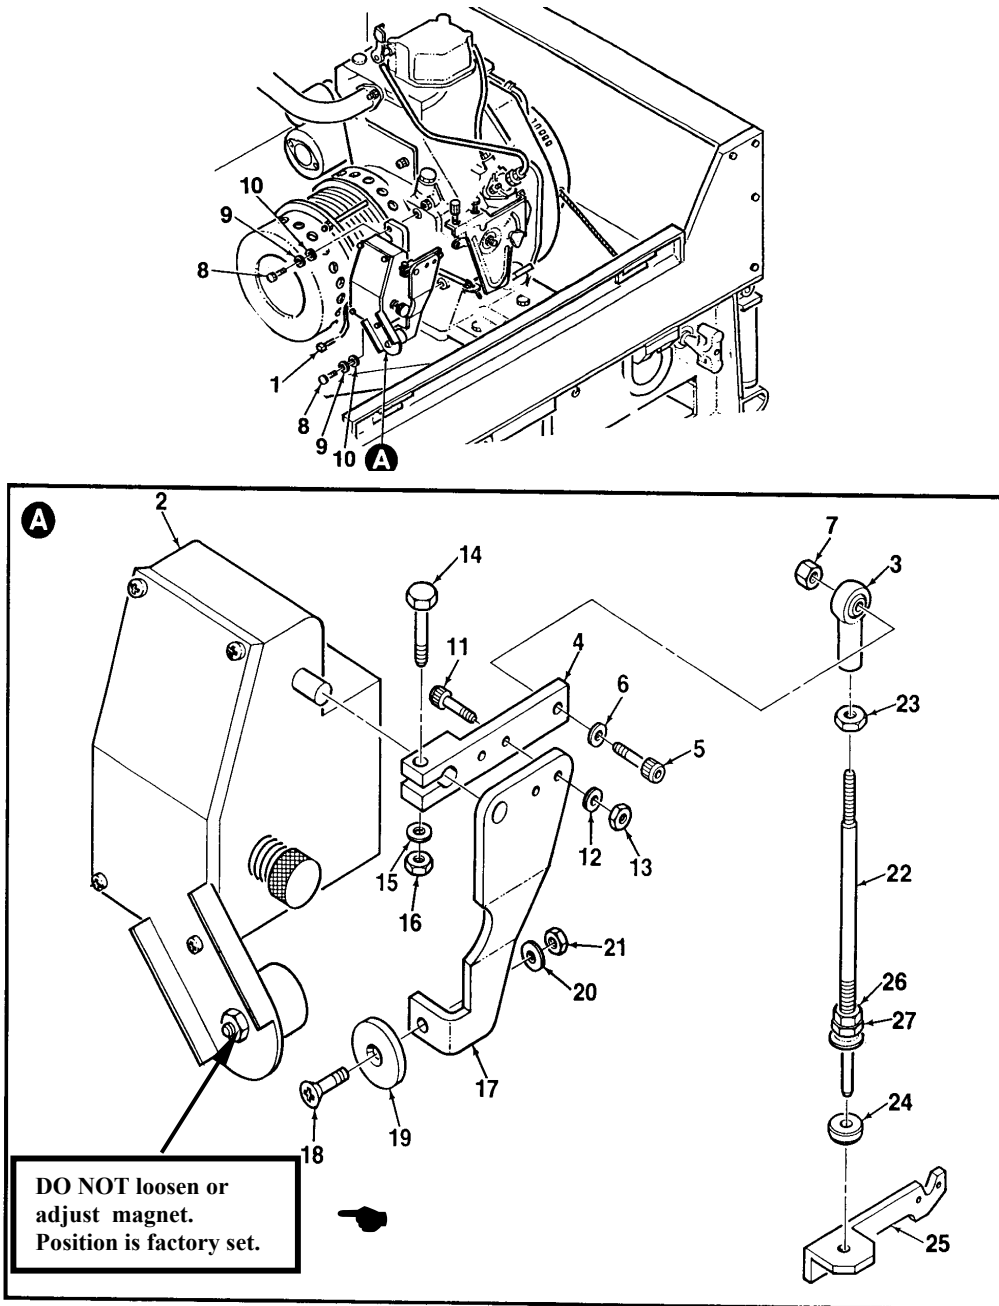

Figure 4-51. Governor Actuator
2. Disconnect electrical plug (1, Figure 4-51) from governor actuator (2).
3. Disconnect ball joint (3) on engine linkage from lever (4) on governor actuator by removing screw (5), washer (6), and locknut (7).
4. Remove governor actuator (2) by removing two screws (8), lockwashers (9), and washers (10).
1. Remove lever (17, Figure 4-51) from lever (4) by removing screw (11), washer (12), and nut (13).
2. Release lever (4) from governor actuator (2) by loosening screw (14), washer (15), and nut (16).
3. Remove screw (18), plate (19), washer (20), and nut (21) from lever (17).
4. Remove ball joint (3) from linkage rod (22). Remove nuts (23, 26, 27) and spherical washer (24). Remove link bracket (25) from engine only if replacement is required.